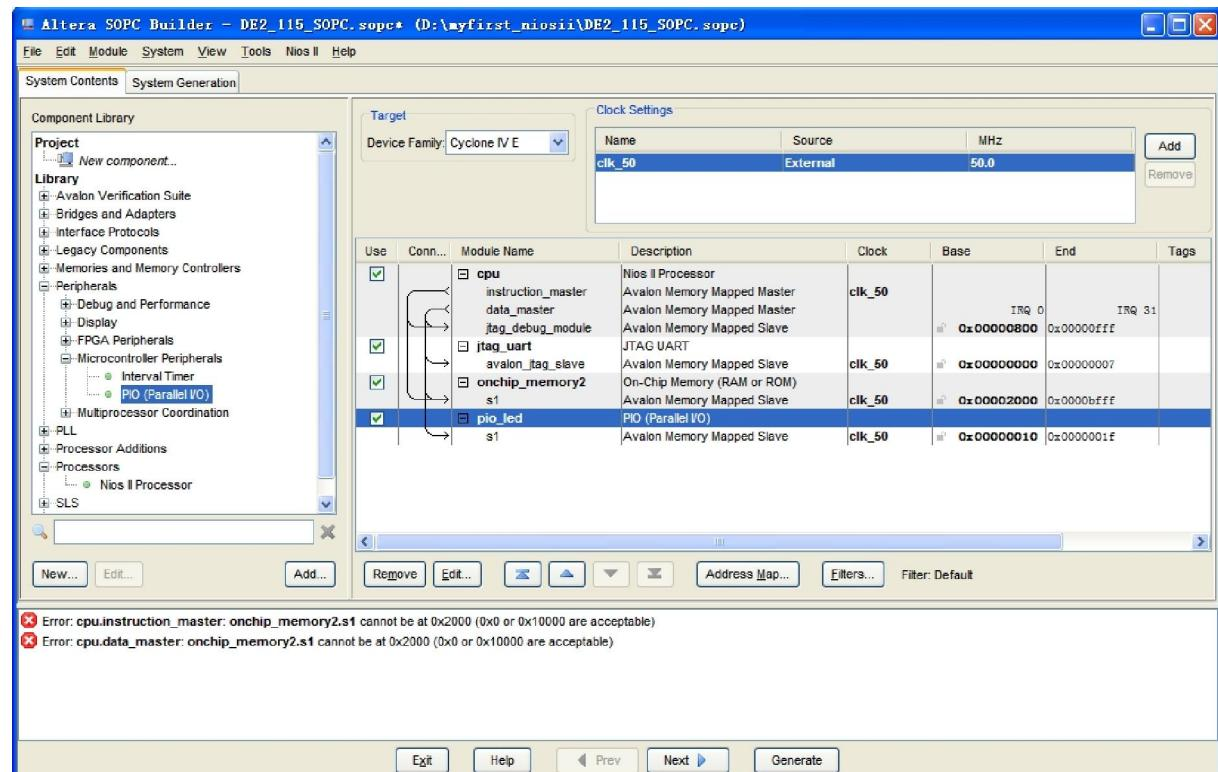

Figure 1-33 Rename PIO
21. Rename **pio_0** to **pio_led** as shown in **Figure 1-33**.